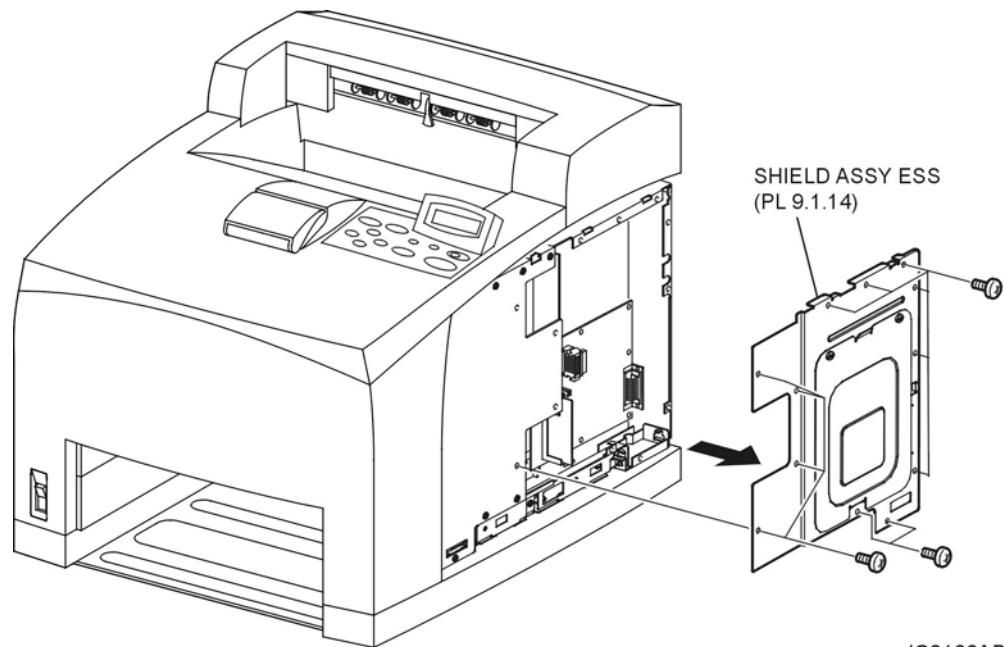

Figure 1. ESS Shield Assembly
- 2) Remove the 12 screws (silver, 6mm) securing the SHIELD ASSEMBLY ESS to the frame (Figure 1).
- 1) Install the SHIELD ASSEMBLY ESS to the frame using the 12 screws (silver, 6mm) (Figure 1).